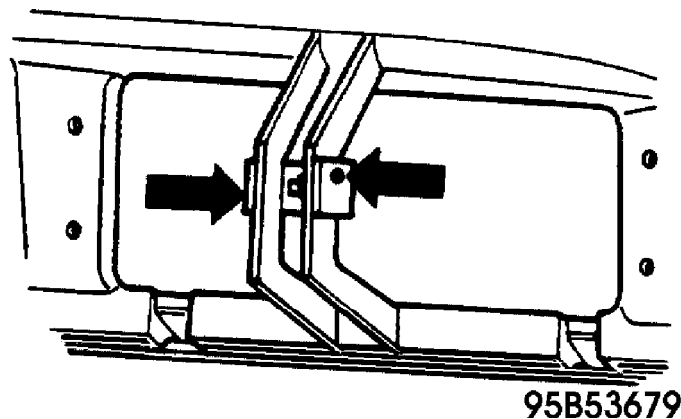

Fig. 5: Hole Locations In Bracket
- Install self-tapping screws, Part No. N 013 966.12 or equivalent through holes in bracket and fasten to housing. See Fig. 5, (arrows).